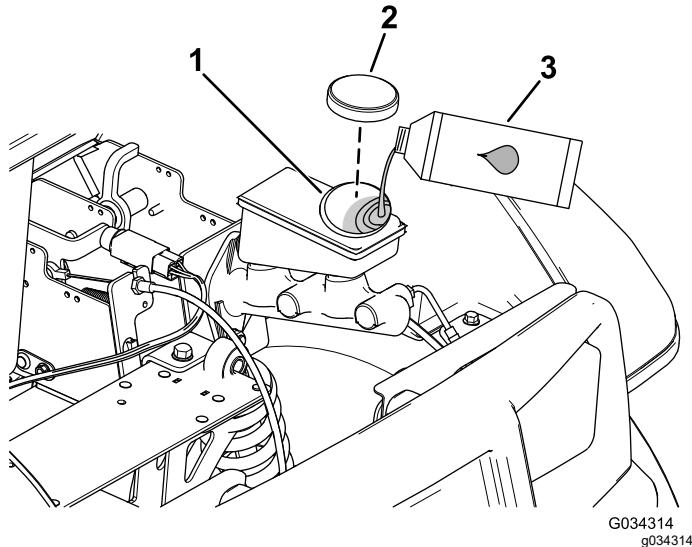

Figure 55
- Raise the hood to gain access to the master-brake cylinder and reservoir (Figure 55).
- Clean the area around the reservoir cap and remove the cap (Figure 55).
- Install the reservoir cap (Figure 55).